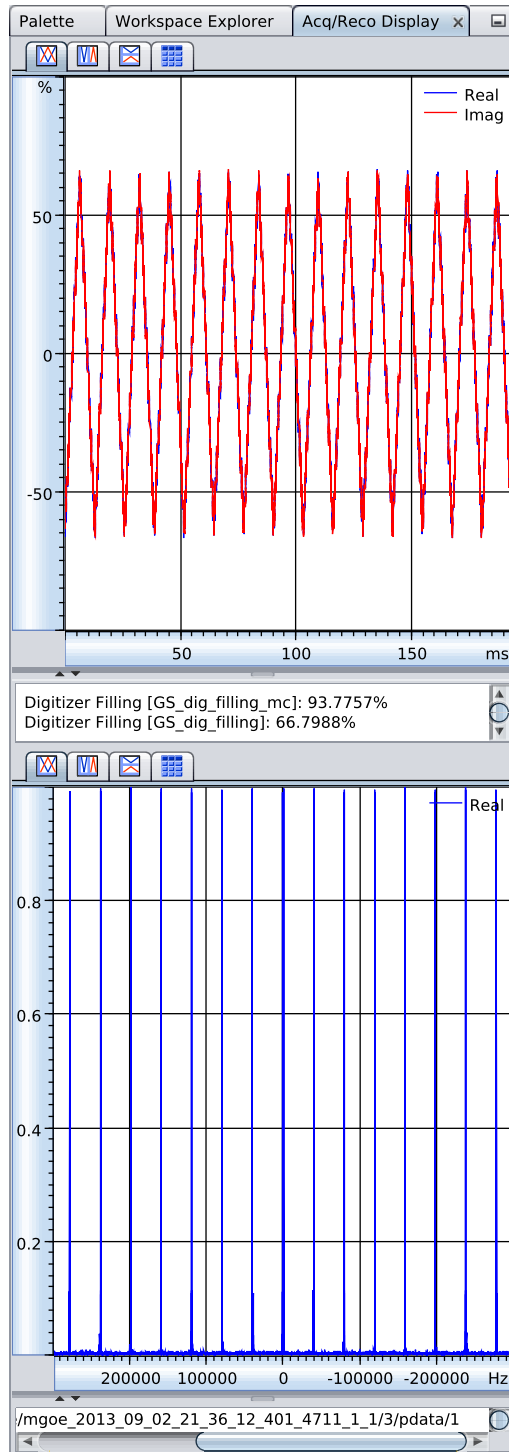

Figure 1.46: Acq Reco Display
- The instruction status changes from READY via SCHEDULED to GSP. When GSP is reached data is acquired. While data is acquired, parameters from the Setup Card may be changed. Their impact on the signal can be viewed in real-time using the Acq/Reco Display (see [Figure 1.46 \[▶ 63\]](#)) which is automatically opened in the left part of the user interface. The Acq/Reco Display shows the raw data in the top diagram and the reconstructed data in the middle/bottom diagram. The setup pipeline will run endlessly until it is stopped by the operator.